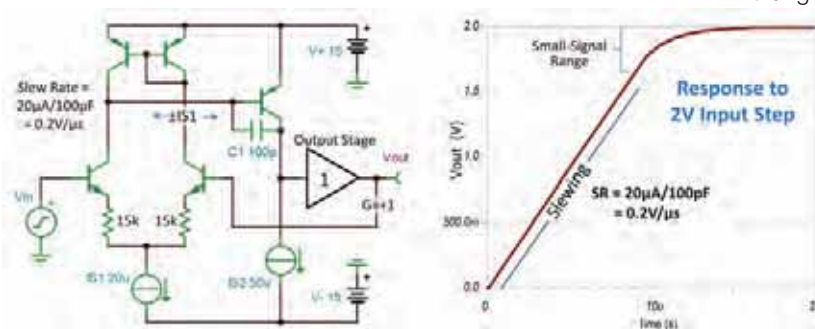

Figure 50: A large change in the input signal creates an output slewing condition.
If the input step is large enough, the accelerator is jammed to the floor. More input will not make the output move faster. (Figure 50 shows why in a simple op amp circuit.) With a constant input voltage to the closed-loop circuit, there is zero voltage between the op amp inputs. The input stage is balanced, and the current IS1 splits equally between the two input transistors. With a step-function change in V_{IN} greater than 350 mV for this circuit, all of the IS1 current is steered to one side of the input transistor pair. That current charges (or discharges) the Miller compensation capacitor, C1. The output slew rate (SR) is the rate at which IS1 charges C1, equal to $IS1/C1$.
Large-signal square waves with very fast edges tilt on the rising and falling edges according to the slew rate of the amplifier. The final portion of a rising or falling edge will have rounding as the amplifier reaches its small-signal range, as shown in Figure 50.